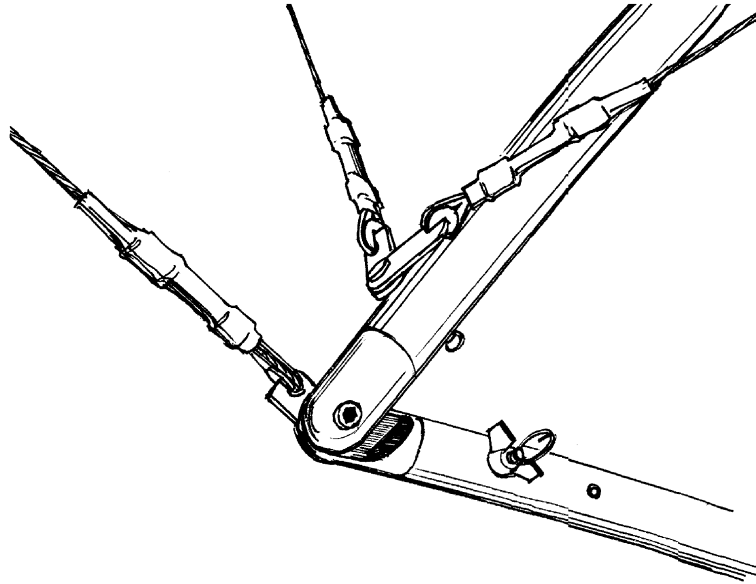

Fig.3
If your glider is supplied with wheels, secure wheels on the speedbar now. Fix the speedbar using the bolts, wing nuts and the safety rings (Fig.3) or using quick-pins.
2.2.2. Remove the safety bag from the downtubes. Spread the downtubes. Install the speedbar so that off-set of the speedbar is directed forward and upwards to the flight direction. Fix each end of the speedbar using the bolt, the wing nut and the safety ring or using quick-pin (see Fig.3).